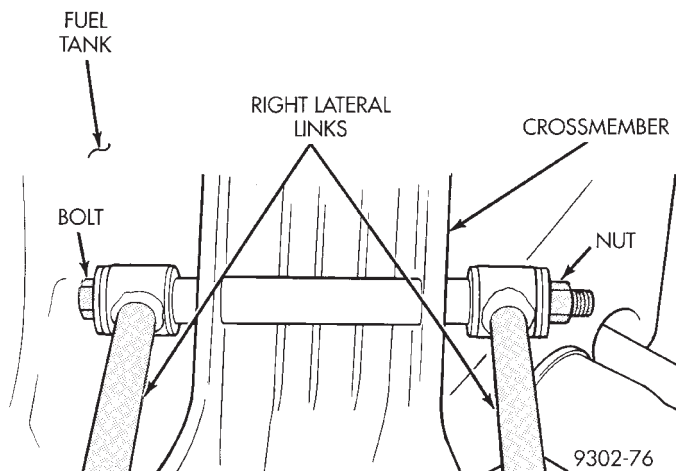

Fig. 38 Right Lateral Links To Crossmember Bolt
(6) Lower the rear suspension crossmember enough so that the right lateral links to crossmember attaching bolt will clear fuel tank.
(7) Remove the nut and bolt attaching the right lateral links to the rear suspension crossmember (Fig. 38). Remove the lateral links from the vehicle.
(2) Install the right lateral links attaching bolt at the crossmember. **Note: Right lateral link attaching bolts MUST be install, so head of bolt is facing front of vehicle (Fig. 36) and (Fig. 38).**
(3) Position crossmember on frame rails and install the 4 crossmember to frame rail attaching
(4) Tighten the lateral links to crossmember attaching bolt (Fig. 38) to a torque of 140 N·m (105 ft. lbs.).